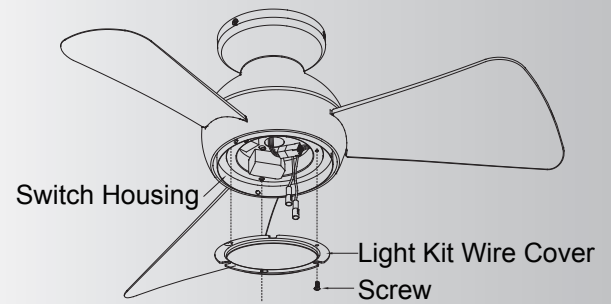

Fig. 14a
Step 5. If installing the light kit, skip to step 7. Assemble the light kit wire cover to the switch housing using the two key slots. Replace the removed screw and secure all three screws. (Fig. 14a)